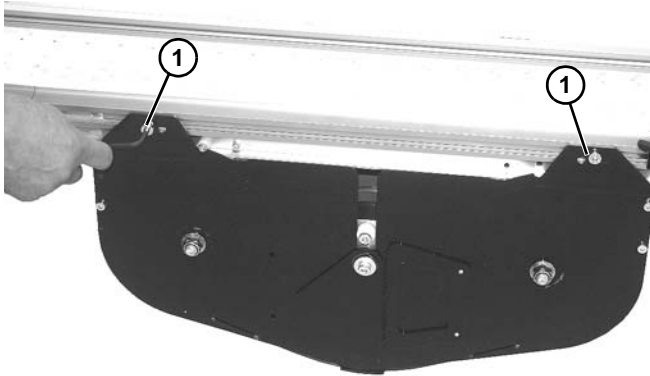

Figure 146
1. Remove two socket head screws (Figure 146, item 1) on each side securing assembly to frame.